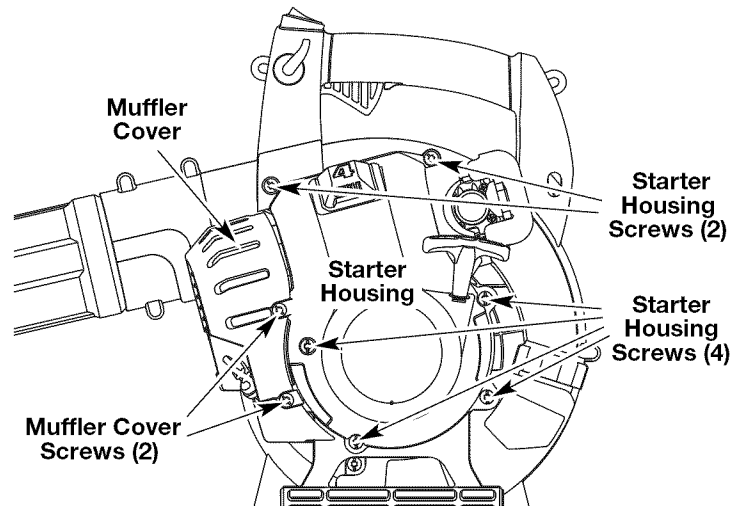

Fig. 28
1. Remove the 2 muffler cover screws with a flat blade or T-25 Torx head screwdriver (Fig. 28), then remove the cover.
2. Remove the 6 starter housing screws with flat blade or T-25 Torx head screwdriver (Fig. 28), then remove the housing.
**NOTE:** Make sure that the screws are reinstalled into their original holes (Fig. 28).